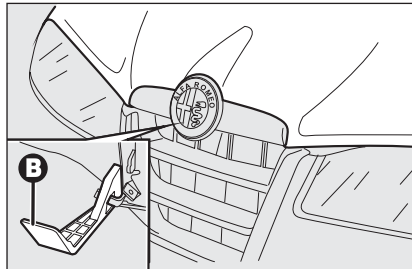

fig. 99
- press the safety lever **B-fig. 99** upwards and raise the bonnet.